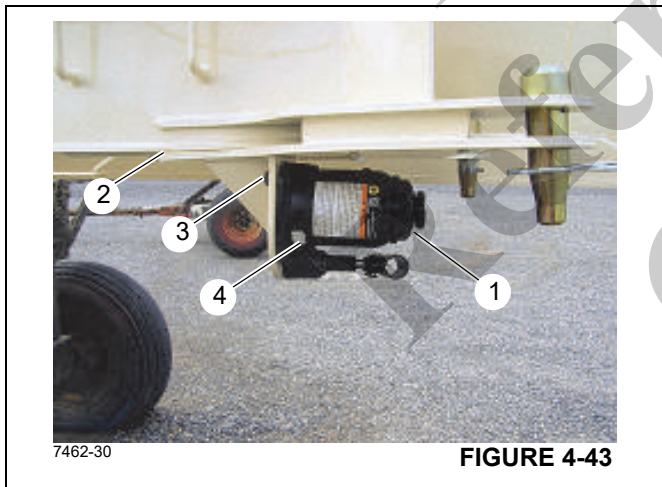

FIGURE 4-43
1. With saddle fully lowered and piston depressed, set jack in its upright level position and remove oil filler plug. (4, Figure 4-43).
2. To drain the oil, remove the filler plug (4, Figure 4-43).